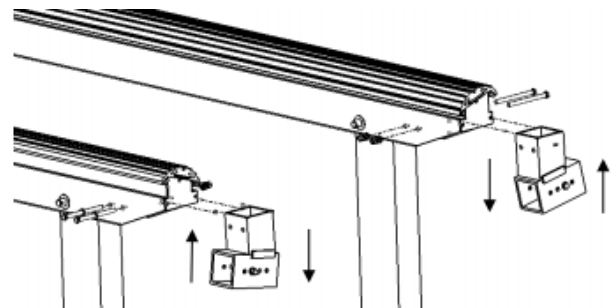

Figure 21
2. Align holes in Bunk support and Guide Pole Mounting Bracket, making sure the lower guide adjustment tube is angled upward toward the outside of the lift, and downward toward the inside of the lift as shown in Figure 21.